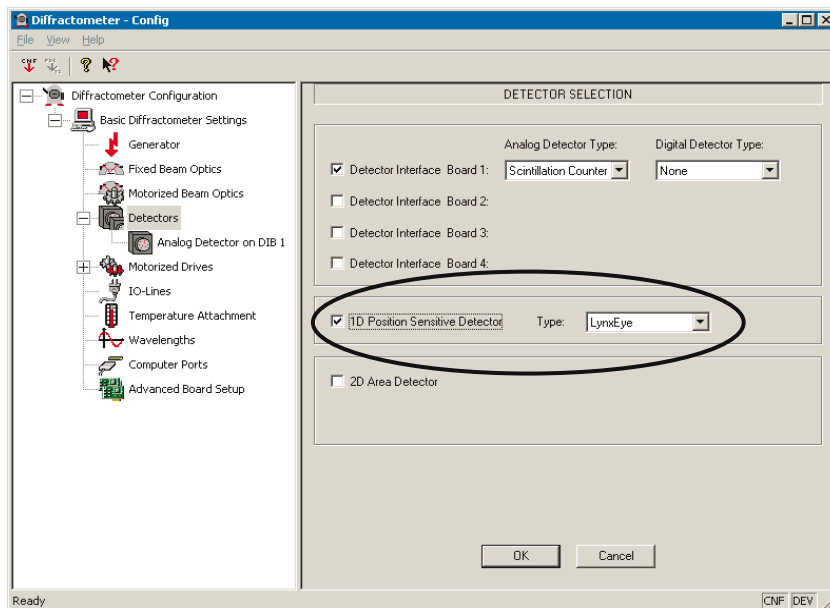

Figure 6.4 Detector menu in Configuration program
1. From the main Config menu, select the **Detectors** menu (Figure 6.4).